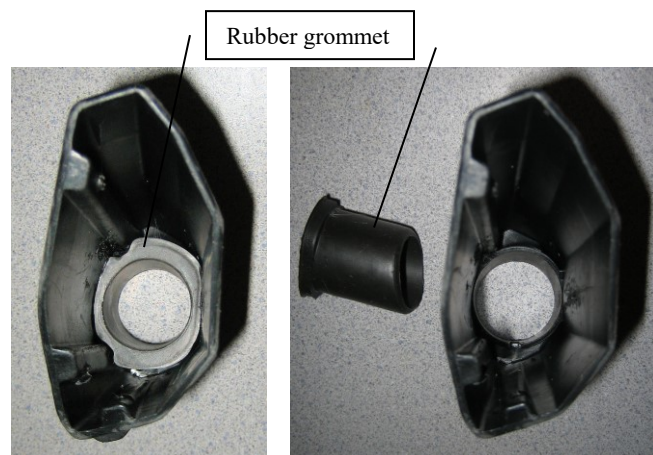

Figure 4 – Inside view of end cap identifying rubber grommet installed location (Left) and appearance after removal (Right).
- 5) After the end cap is free from the exhaust tube pull out the rubber grommet from the inside of the end cap and thoroughly clean the end cap, especially the bore where the grommet was (test for solvent compatibility with the composite (PLASTIC) end cap). The spark arrestor will replace the rubber grommet in the end cap assembly. Figure 4 shows what the end cap looks like with and without the grommet.